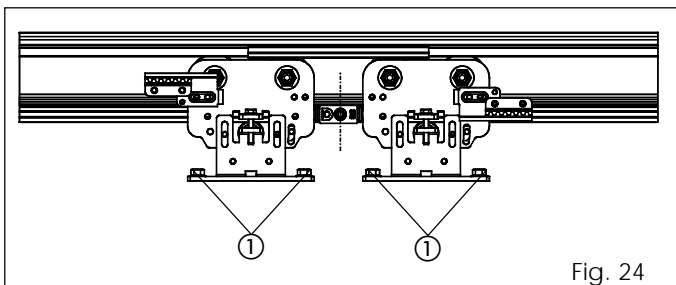

Fig. 24
The 940 SM series doors are supplied with the carriages reaching their travel stop limit on the closing edge (fig. 24). If the door centre has to be adjusted, proceed as follows:
- Loosen the fixing screws (fig. 24 ref. ①) of the carriage in question. Take the carriage toward the limit stop until the two parts are in contact.